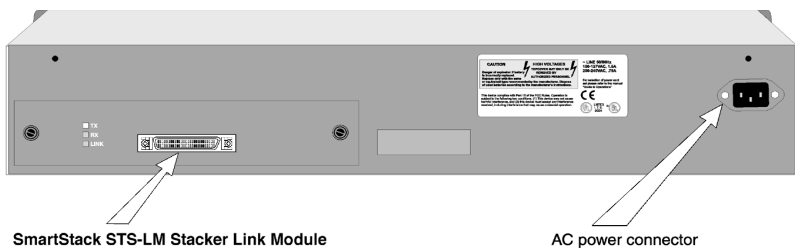

Figure 21. The back panel of the STS16-20D
2. Using a power cable that complies with national regulations, plug the female end of the cable into the AC power connector on the back panel of the switch (see Figure 21 or Figure 22).